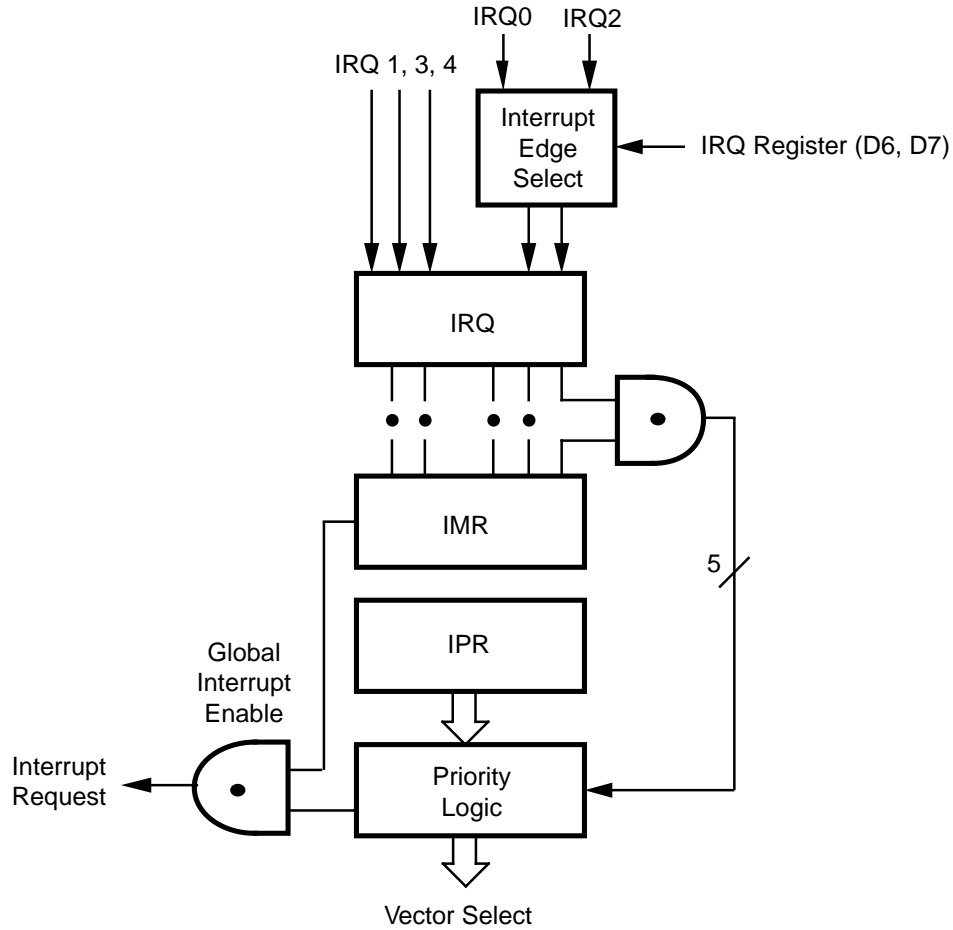

Figure 30. Interrupt Block Diagram
**Interrupts.** The Z86L7X has five different interrupts. The interrupts are maskable and prioritized (Figure 30). The five sources are divided as follows: three sources are claimed by Port 3 lines P33-P31, the remaining two by the